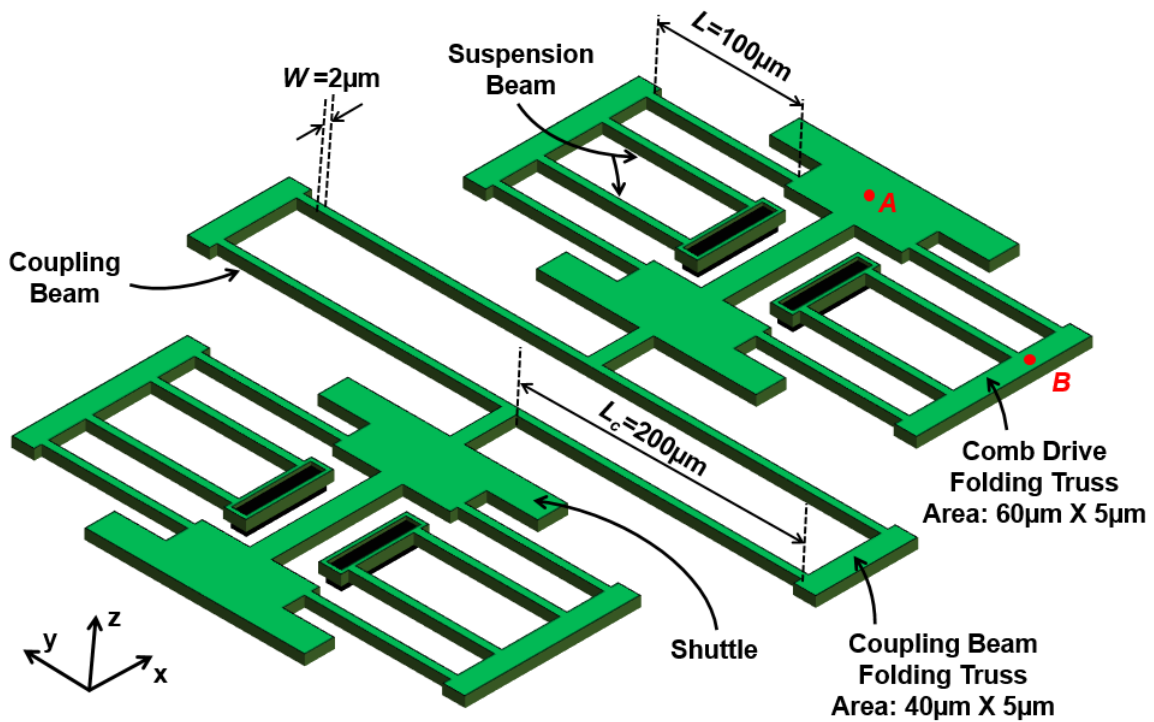

Fig. PS4.1
- Fig. PS4.1 below presents a small micromechanical filter constructed in a $2\mu\text{m}$ -thick structural layer. Here, everything is suspended $2\mu\text{m}$ above the substrate except for the anchoring locations indicated as the darkly shaded regions. Data on the structural material used in this problem is given in Table PS4.1. Assume that all folding trusses and shuttles are rigid in all directions, including the vertical, z direction. Also, assume that all suspension and coupling beam widths are $2\mu\text{m}$.
- (c) Suppose an incomplete HF/DI rinse release step were performed, after which the shuttles were not fully released, but all suspension beams and folding trusses were successfully released. Using the data in Fig. PS4.1, will the coupling beam folding trusses be stuck down?